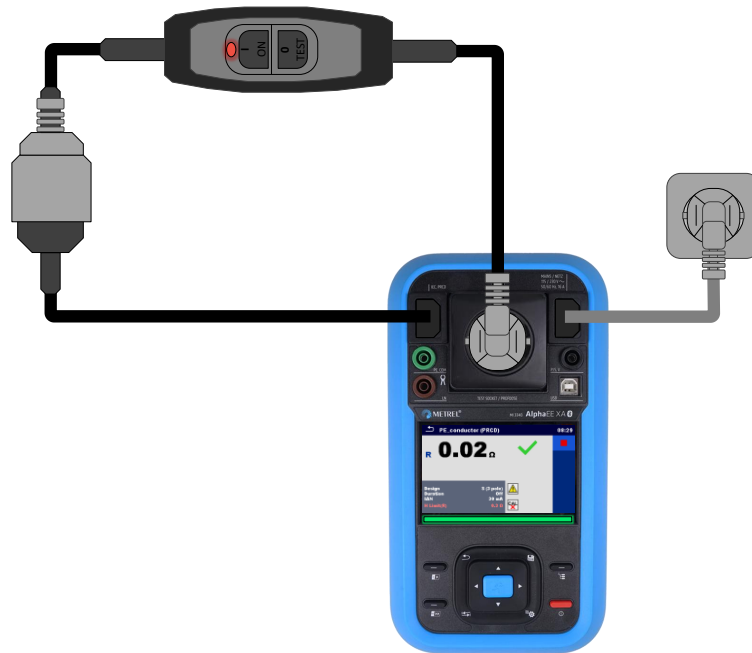

Figure 139_Continuity of protective earth
- Connect the DUT according to the connection diagram Figure 139_Continuity of protective earth,